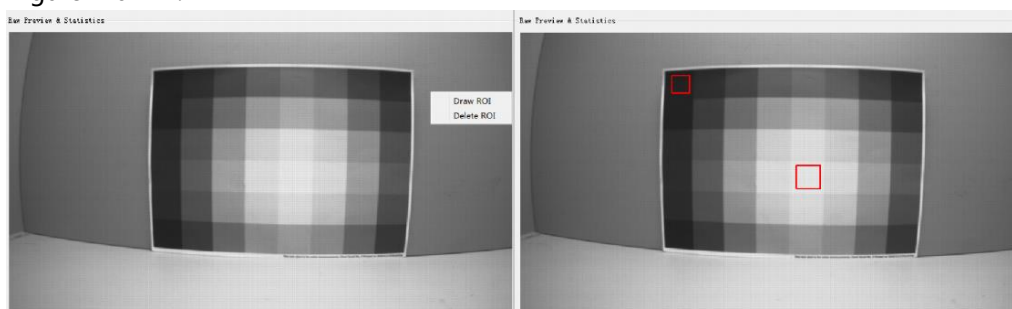

Figure 4-6-2-1
7. Select the **YNR Capture**, first take a raw image, right-click on the preview on the right and select **Draw ROI**, and select the brightest block and the darkest block in the preview image in turn (represented by black and white blocks later), double-click the rectangle, we can re-draw it, fix the image position and the rectangle position, and perform NR capturing, as shown in Figure 4-6-2-1.